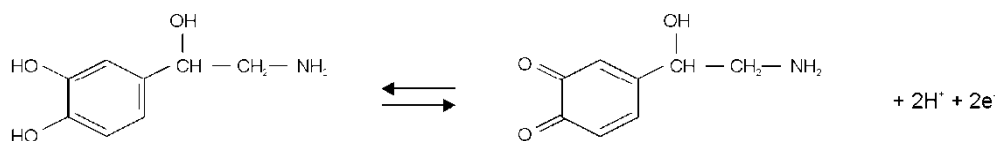

Fig. 13. Oxidation/reduction reaction of norepinephrine.
The mechanism of the REDOX reactions is the same for the ROXY applications. The potential is the reactions driving force, but the mass spectrometry (MS) is applied for the oxidation or reduction products detection. An example of an electrochemical reaction is shown in Fig. 13, norepinephrine is converted into a quinone by oxidation at the WE. Two electrons are transferred at the WE resulting in an electrical current that is amplified by the controller. The norepinephrine and its quinone product itself will be detected in mass spectrometer in ROXY applications.